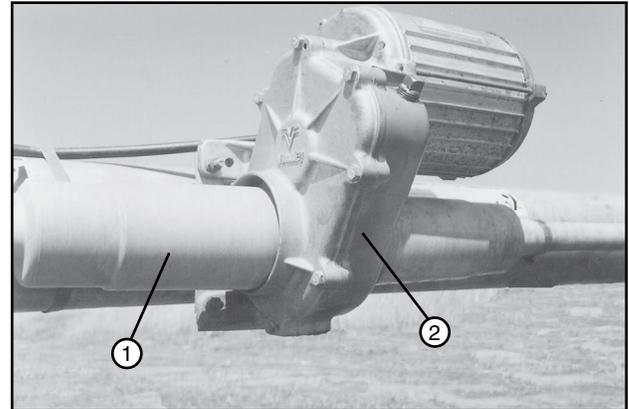

Figure 87-1 1. U-Joint Shield
- Slide the u-joint shield over the u-joint and position approximately 1/4 in away from touching the gearbox. Secure the u-joint shield to the drive shaft shield with a clamp. See Figure 87-1.